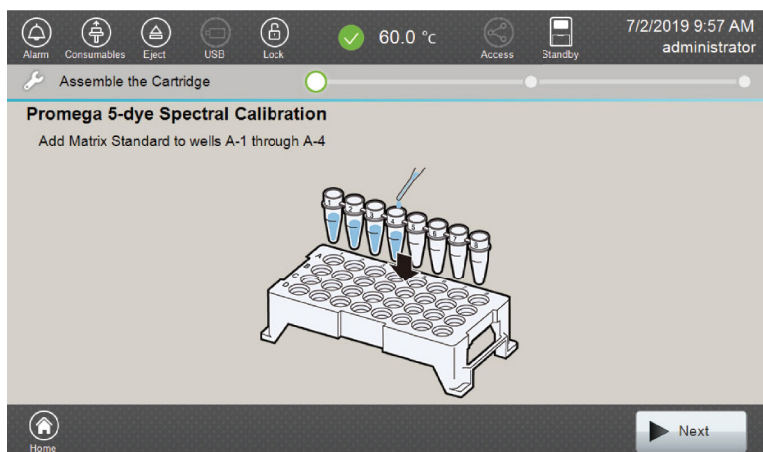

Figure 48. 'Assemble the Cartridge' screen.
4. Add spectral calibration samples to wells 1–4 of an 8-well strip tube, place a Strip Septa Mat, 8-Well, on the strip tube, and place into lane position A of the strip base, ensuring that spectral calibration sample containing wells are in position A1 to A4 as shown on the 'Assemble the Cartridge' screen (Figure 48).